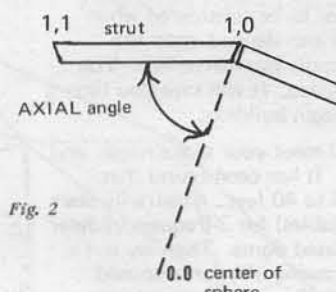

Fig. 2
**AXIAL 0,0 1,0 1,1** refers to the angle between a line drawn from the center of the sphere (0,0) and vertex 1,0, and the strut 1,0 1,1 (Fig. 2). It is the angle that a strut meets its hub from the side view. Note that it is *not* the entire included angle under a hub, but only to the line from the hub to the sphere center. The first value is **DEGREES**. The second is **RADIANS**.  $90^\circ$  minus the axial angle equals angle you cut or bend struts.